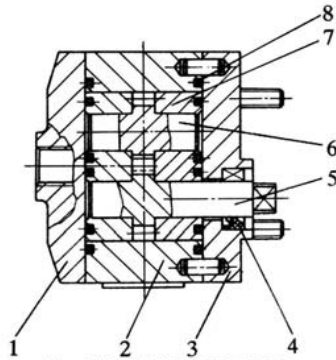

Fig.4-15 CBN-E 306-X1 Gear pump
The gear pumps attached to Agracat series tractors are CBN model volume type outside mesh gear pumps (Fig.4-15). They are all left handed pumps except the right handed pumps on Agracat-160, 164 tractors. The gear pumps are mounted on the back end face of the right side of the gear case of the diesel engine front, which are driven by engines. The gear pump is made up of a pair of outside mesh shaft gear (5) and (6), gear body (2), sleeve (7) and rear cover (1) and front cover (3).